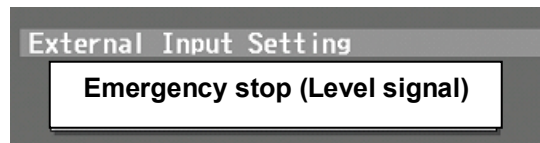

Figure 4. Initial Settings on an AE-200A touch screen
2. If an AE-200A is installed, go to the “Initial Settings” of the touch screen and make your selection on the “Network” page as shown in Figure 4.